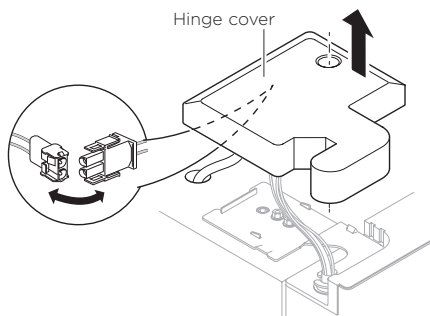

Fig.3 Removing hinge cover
- ① Undo the hinge cover screw and remove the cover (Fig.3), the clips holding the cover must be released first. Unclip the front section of the hinge cover, then push the cover towards the centre of the appliance and pull upwards to release.
- ② Disconnect wires held together with clips (Fig.3).